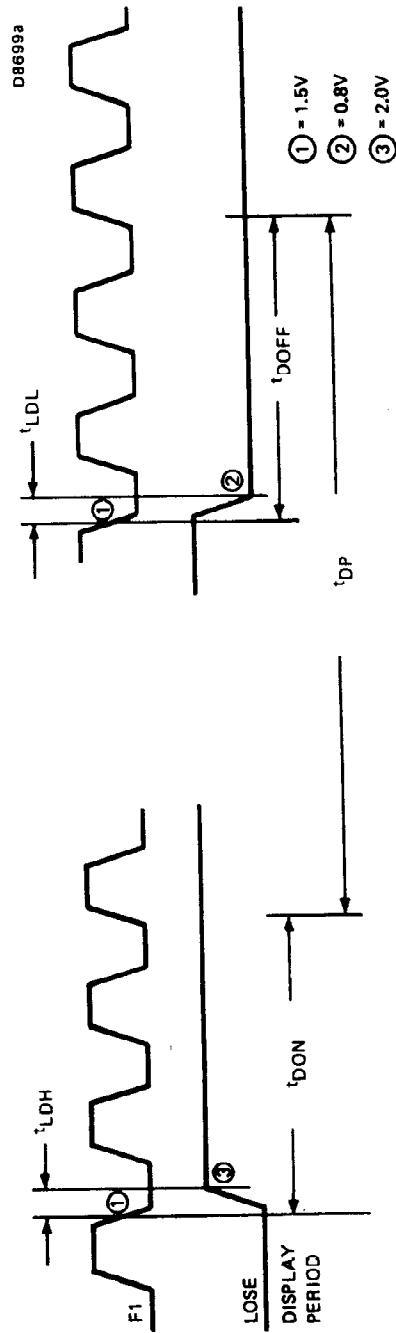

Fig. 5 Display period timing (for typical 40 character display)
**Display period timing (Fig.5)**
3. Valid during display period only (see Fig.5) otherwise no character or background information is displayed as blanking is determined by the Picture On. (No blanking if PO = '1').